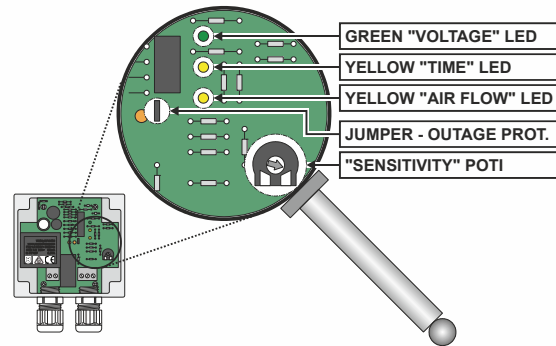

Fig. 3. KSL 24 (cover removed)
1. If Electrical Outage Protection (see section "60-Second Electrical Outage Protection") is desired, insert the jumper (see Fig. 3). Otherwise, remove the jumper.
2. Next, set the potentiometer (marked "Sensitivity" – see Fig. 3) to the lowest sensitivity (i.e., to the left limit stop).